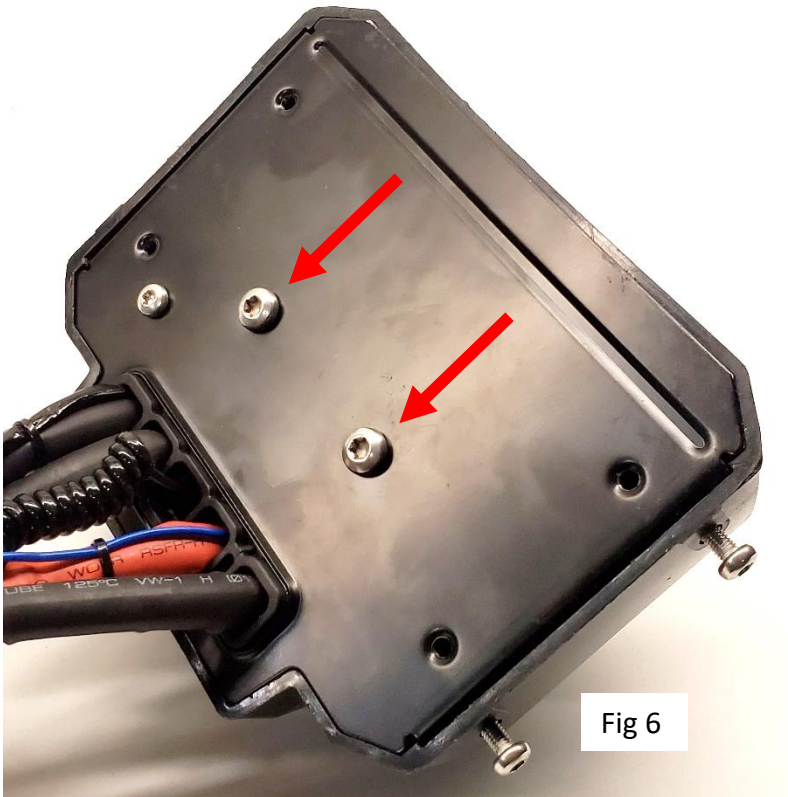

Fig 6
**Note: Make sure you do not remove or loosen the ISM mounting screws located on the bottom of the control box. Loose or missing screws can short out of cause internal damage internally. Fig 6.**